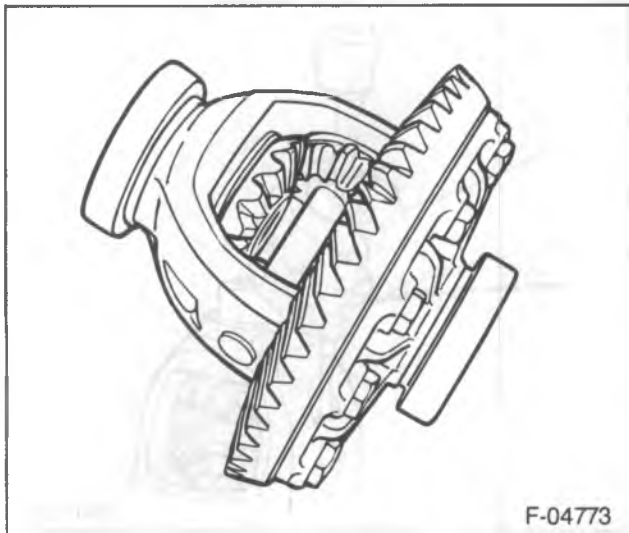

Figure 20—Differential with the Master Bearings
9. Master differential bearings D-117 (Miller Tools) to the differential (figure 20).